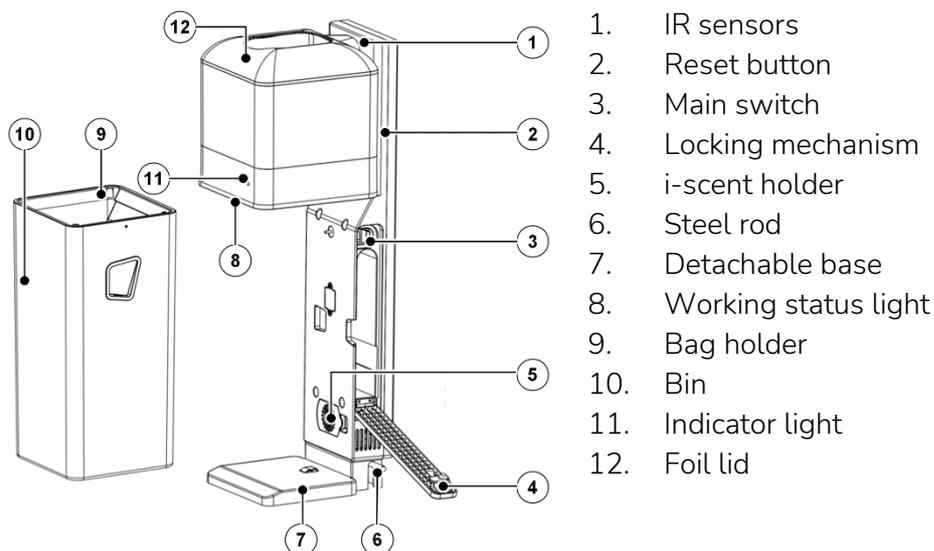

Figure 3
- The bottom part, the Bin, see Figure 3.